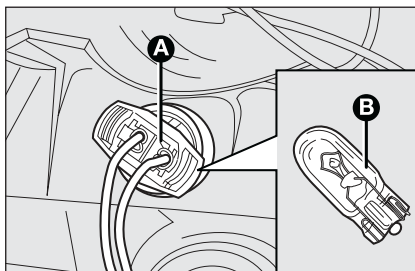

fig. 25
- remove the snap-fitted bulb holder **A**-fig. 25, extract the bulb **B** and change it;